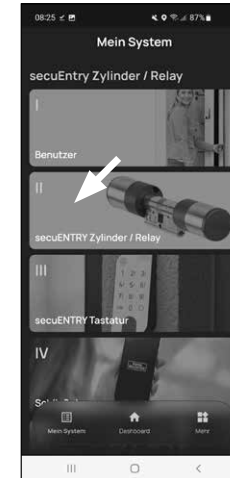

Fig. 1
- 1 Tap on the second menu item "*II - secuENTRY Cylinder/Relay*" (Fig. 1).